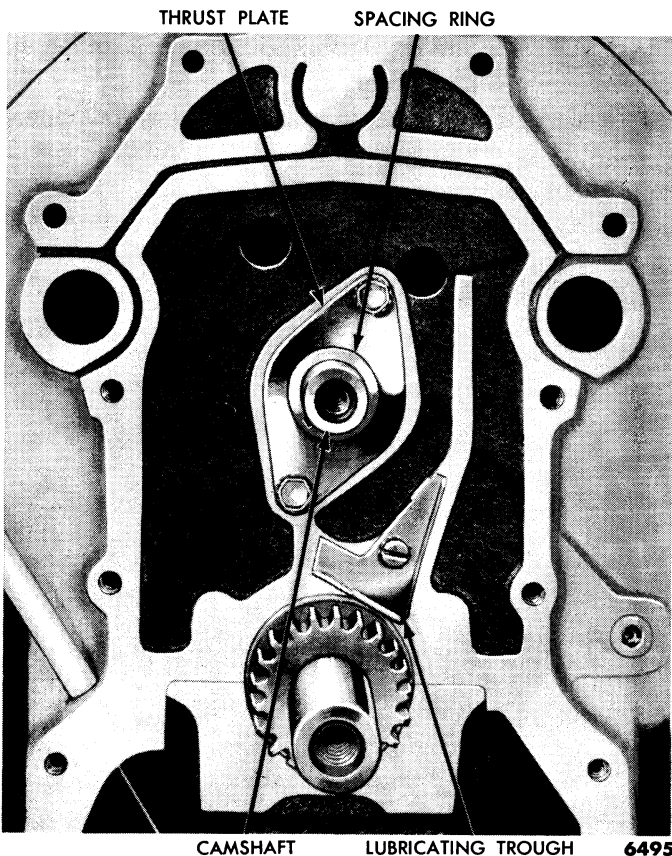

Fig. 26—Camshaft Thrust Plate
Remove the sprockets and timing chain as an assembly. Remove the camshaft thrust plate, woodruff key, and spacer (fig. 26).
(2) **INSTALLATION.** Oil the camshaft and carefully slide it through the bearings. Install the thrust plate and spacer (fig. 26).